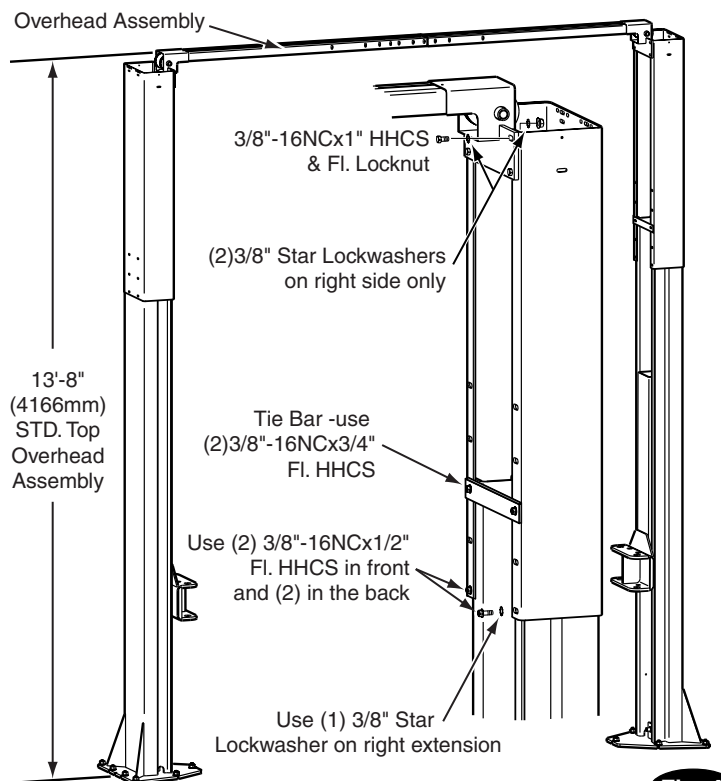
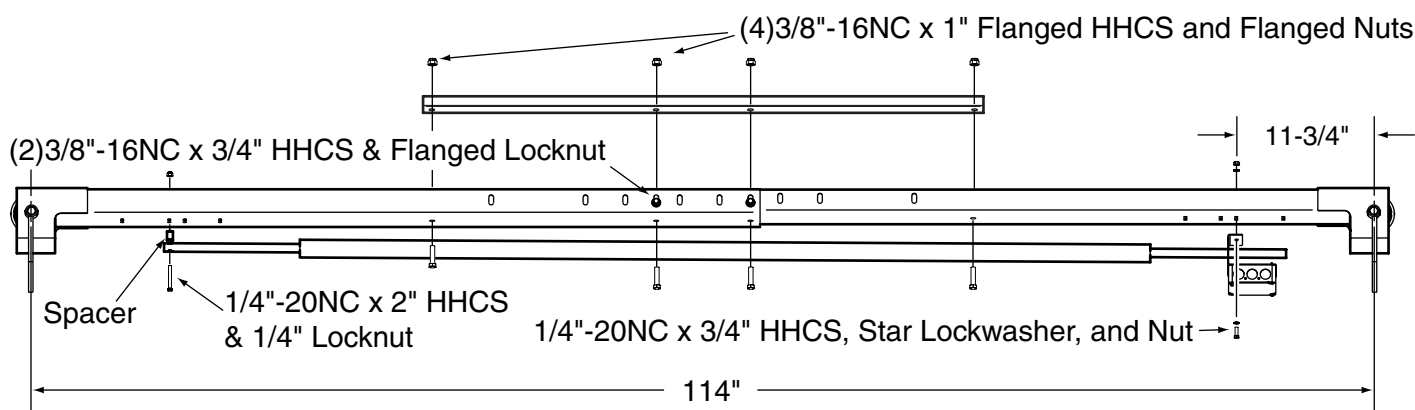

Fig. 4
Fig. 6
2. Lift Height: See Fig. 4 for overall lift height of each specific lift model. Add 1" min. to overall height to lowest obstruction.
IMPORTANT: All star washers are to be mounted on the right side column to ensure grounding of overhead limit switch. Star washers are not needed when mounting to left side column. Notice the column extension mounting, Fig. 4 and overhead limit switch mounting as well in Fig. 4 & Fig. 6.
6. Column Extensions: Install column extensions using (4) 3/8"-16NC x 1/2" lg. Flanged HHCS, Fig. 4. Use (2) 3/8"-16NC x 3/4" lg. Flanged HHCS to attach the tie bar and the column extension together at the column's uppermost holes, Fig. 4. The tie bar is positioned on the outside of the column extension. Adjust the column extensions plumb.
7. Overhead Assembly: Adjust overhead to 114" between centerline of sheave pins, Fig. 6. Install (4) 3/8"-16NC x 3/4" Flanged HHCS & Flanged Locknuts, do not tighten. Install overhead stiffener angle inside center of overhead using (4) 3/8"-16NC x 1" Flanged HHCS and Flanged Locknuts, see Fig. 6. Mount switch assembly towards power unit column as shown, using (2) 1/4"-20NC x 3/4" lg. HHCS, nuts and 1/4" Star Washers. Insert 1/4"-20NC x 2" HHCS through pivot hole in end of switch bar. Insert opposite end of bar through slot in switch mounting bracket. Then secure Hex bolt and switch bar to overhead as shown, using 3/4" spacer and Locknut. Tighten Hex bolt leaving 1/16" gap between the spacer and the overhead assembly.
8. Overhead: Install overhead assembly to column extensions with (2) star washers and (8) 3/8"-16NC x 1" Flanged HHCS and Flanged Locknuts, Fig. 4. Tighten bolts at center of overhead assembly.